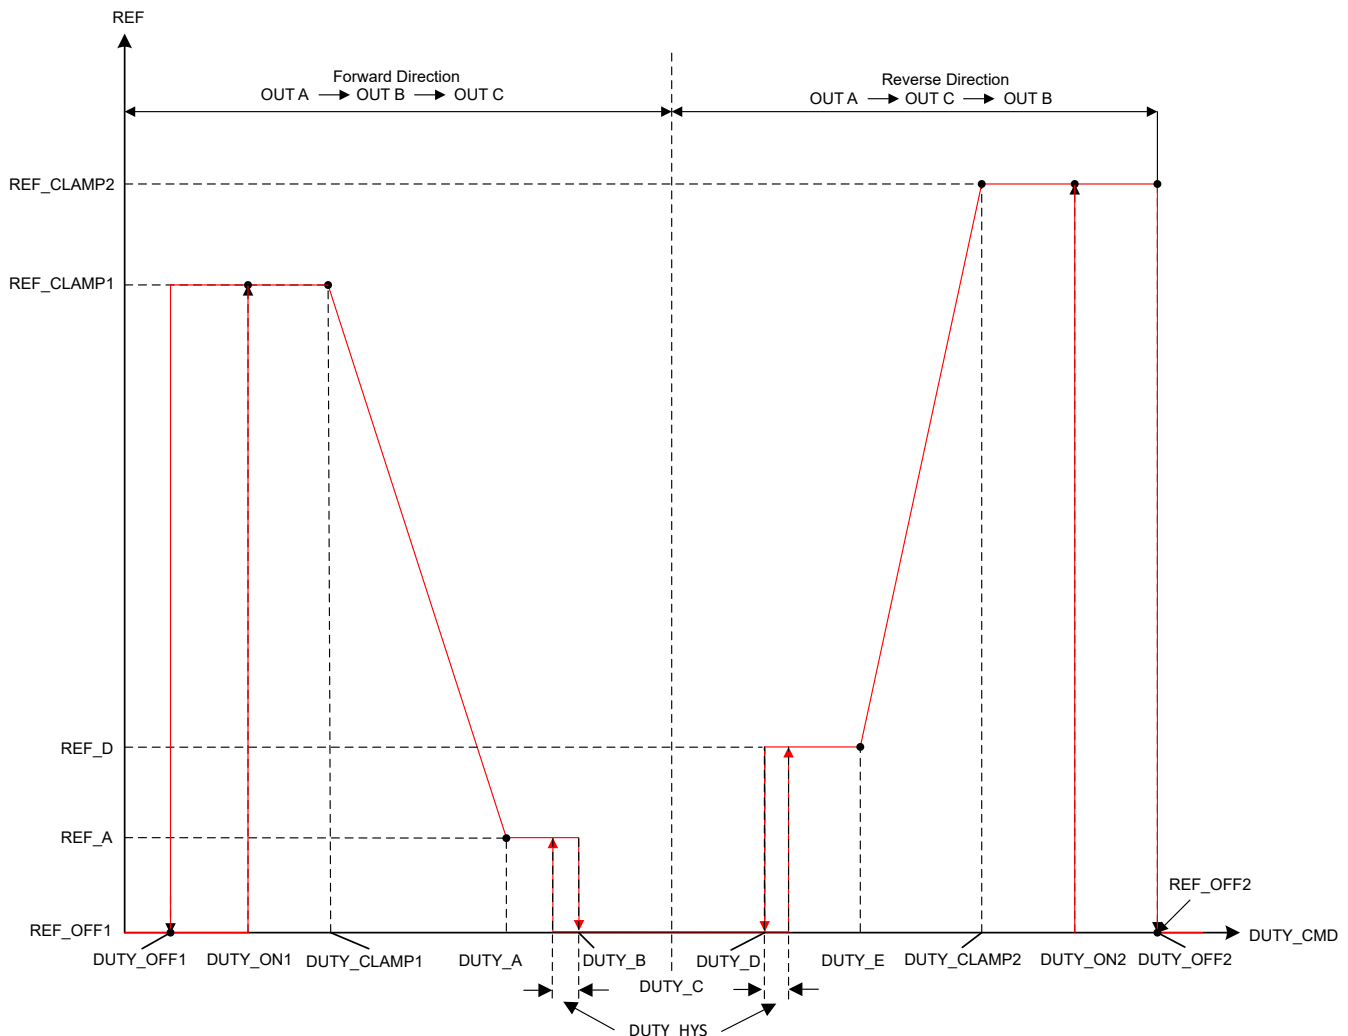

**Figure 6-22. Forward Reverse Control Profiles**
- DUTY\_OFF1 and DUTY\_ON1 configures a hysteresis around reference control input REF\_CLAMP1 and REF\_OFF1 as shown in Figure 6-22.
- DUTY\_A configures the duty command for reference REF\_A. The reference changes linearly between DUTY\_CLAMP1 and DUTY\_A. DUTY\_A to DUTY\_E has to be in the same order as shown in Figure 6-22.
- DUTY\_OFF2 and DUTY\_ON2 configures a hysteresis around reference control input REF\_CLAMP2 and REF\_OFF2 as shown in Figure 6-22.